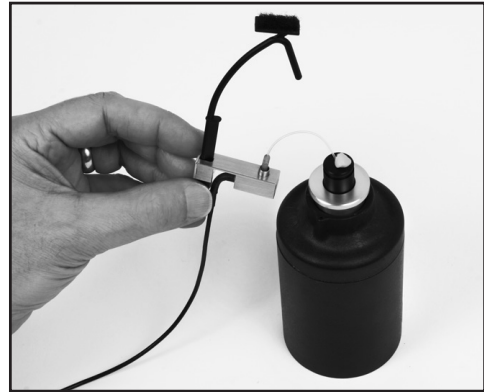

Figure C-3: Integrated probe microphone inserted into sound calibrator.
8. Insert the probe microphone adapter with the attached probe microphone into the calibrator. See Figure C-3.